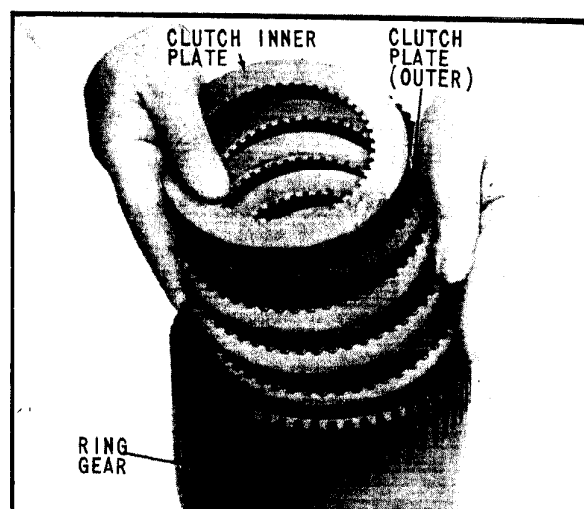

Fig. 35 Installing Forward Clutch Plates
- 21A For the Model 71C lubricate five (5) clutch inner plates and four (4) outer clutch plates, arrange and assemble, as shown in (Fig. 35).
- 21B For the Model 70C lubricate three (3) clutch inner plates and four (2) outer clutch plates, arrange and assemble, as illustrated in (Fig. 35) for the Model 71C.